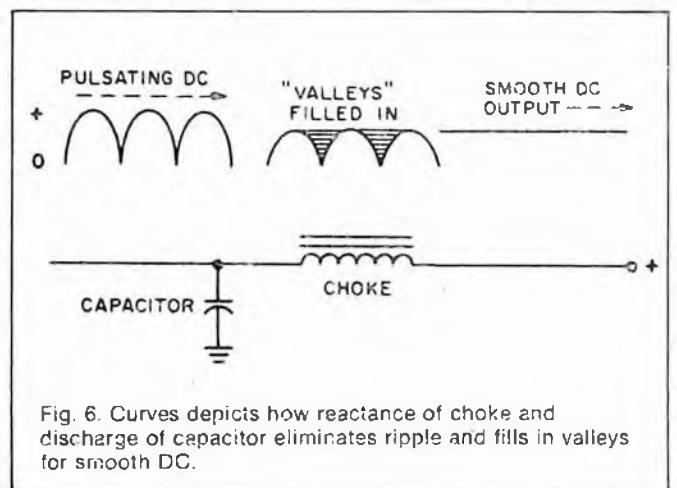

Fig. 6. Curves depicts how reactance of choke and discharge of capacitor eliminates ripple and fills in valleys for smooth DC.
**Filtering.** The next major section of the supply is the filter, which smooths out the ripple. Its two major components are often a capacitor and a choke which eliminate pulsations by dumping a small amount of current from the peak of each ripple into the "valleys" between them. The result, as shown in Fig. 6, is pure DC fit for a tube or transistor.